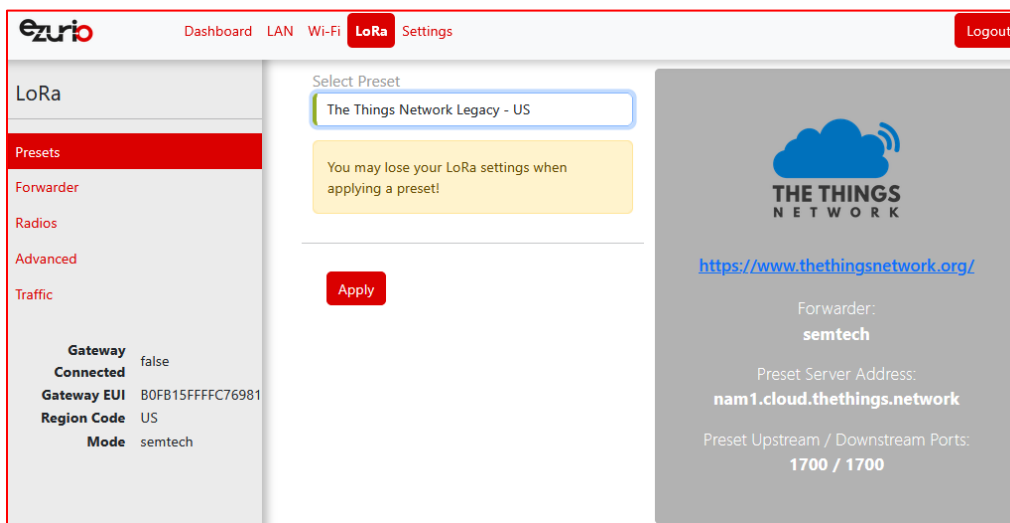

Figure 29: Selecting a preset configuration
2. Select the preset from the drop down. Information about this preset is displayed in a panel to the right (**Figure 29**).